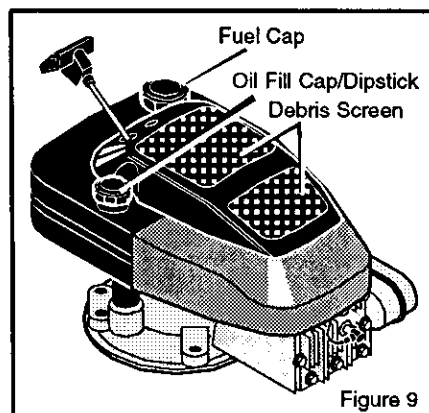

Figure 9
2. Remove the oil fill cap/dipstick shown in Figure 9.
1. Before each use, remove debris from the debris screen shown in Figure 9. Debris can cause the engine to overheat. Wipe the debris screen with a cloth or paper towel.